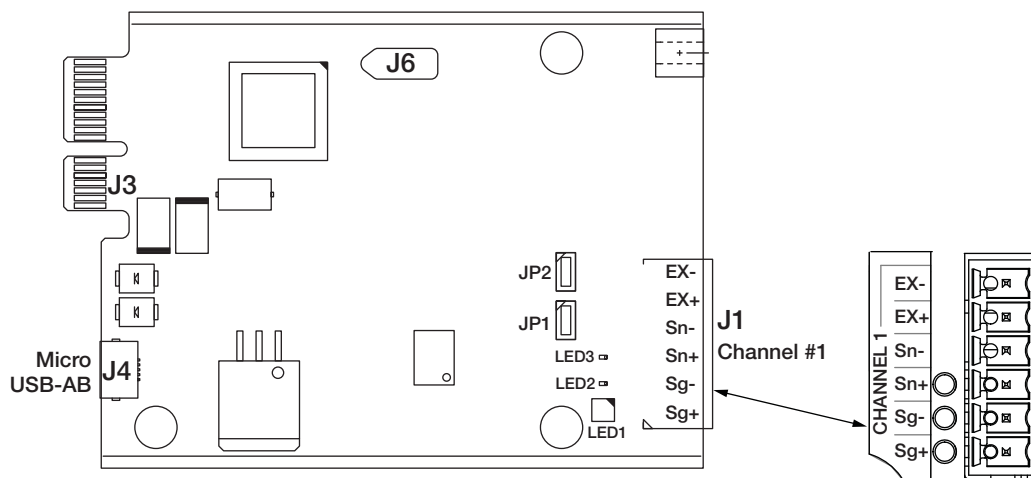

Figure 2. Single-Channel A/D Card
7. Wire the load cell cable from the scale to the connector (from the parts kit) for J1 as shown in Figure 2 and Table 4.